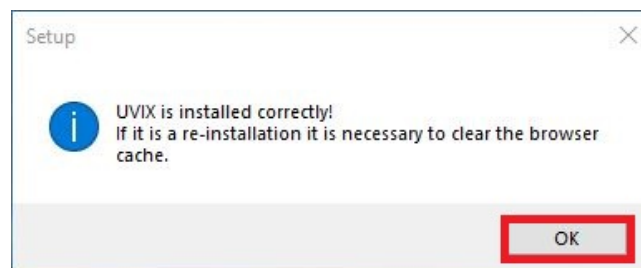

Figure 4.31: End of installation
21. Click "OK" and after the restart, remember to clear the browser cache (browsing history), as shown in figure 4.31.